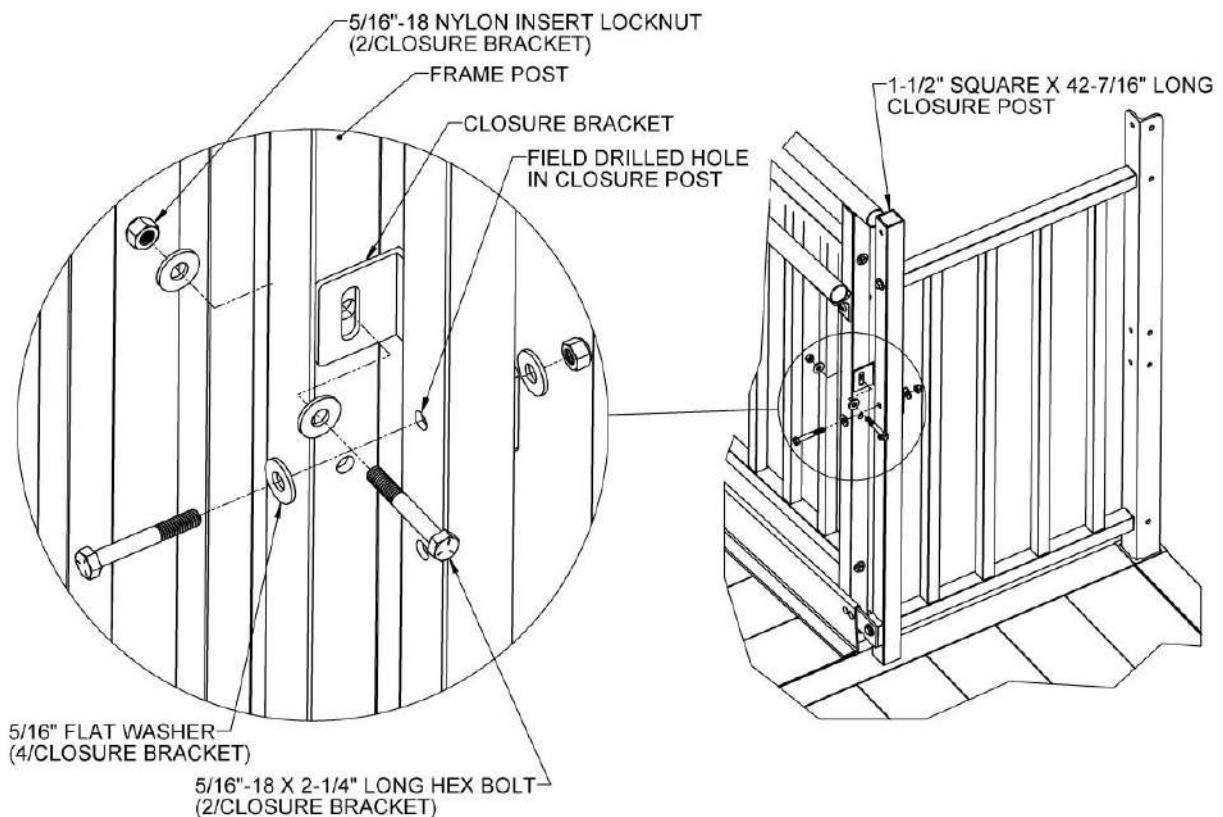

FIG. 5.15
- 5.4.7. Locate a closure bracket and attach the short leg of the bracket to the frame post with a 5/16"-18 x 2-1/4" hex bolt, 5/16" flat washers, and 5/16"-18 nylon insert locknut oriented as shown (FIG. 5.15). Use the uppermost hole available or field drill at a higher location on the post if desired.
- 5.4.9. Drill a 5/16" or 11/32" hole through the 1-1/2" square x 42-7/16" long closure post at the slot in the long leg of the closure bracket (FIG. 5.15).
- 5.4.10. Attach the long leg of closure bracket to the closure post with a 5/16"-18 x 2-1/4" hex bolt, 5/16" flat washers, and 5/16"-18 nylon insert locknut oriented as shown (FIG. 5.15).